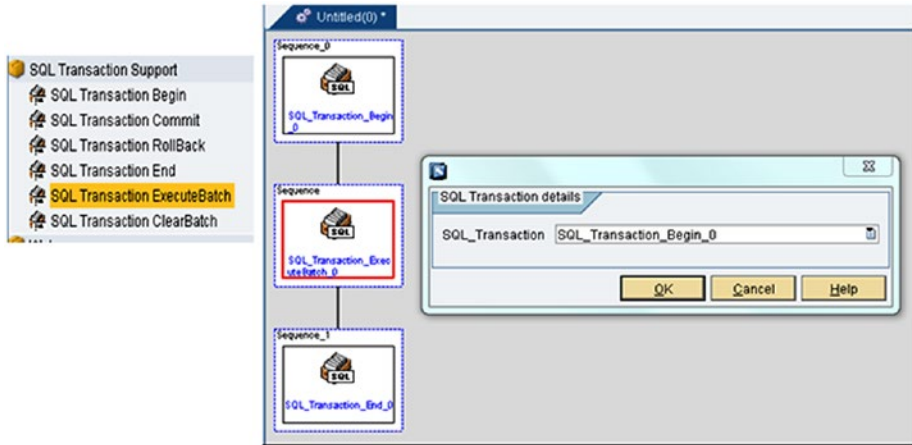

Figure 7-175. SQL Transaction Execute Batch action block and its configuration
- *SQL Transaction Execute Batch*: This action block is used to perform batch processing, as shown in Figure 7-175.